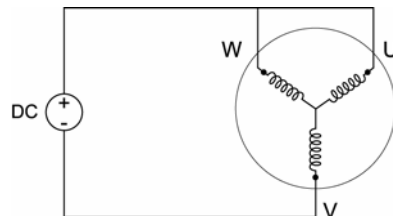

Figure 40 Hall Connection Diagram
1. With the motor's feedback cable connected to the drive/controller, randomly connect two motor input power wires and slowly apply a positive voltage with respect to the third. See Figure 40 on page 88.
2. Remove the motor input power leads, leaving the feedback cable connected to the drive/controller. Connect motor input power wires U and V and slowly apply a positive voltage with respect to W. (See Figure 40.)